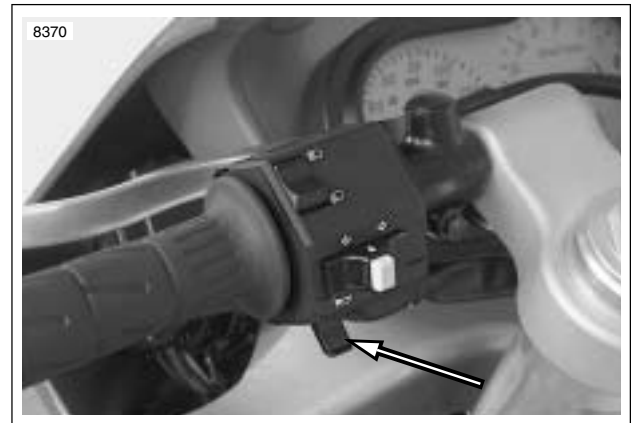

Figure 7-68. Horn Switch
3. See Figure 7-68. Depress horn switch and observe voltmeter reading.